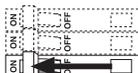

Figure 1
- a. **For Trimmed fixtures:** Pull on flange of trim until the trim is free (**Figure 1**).